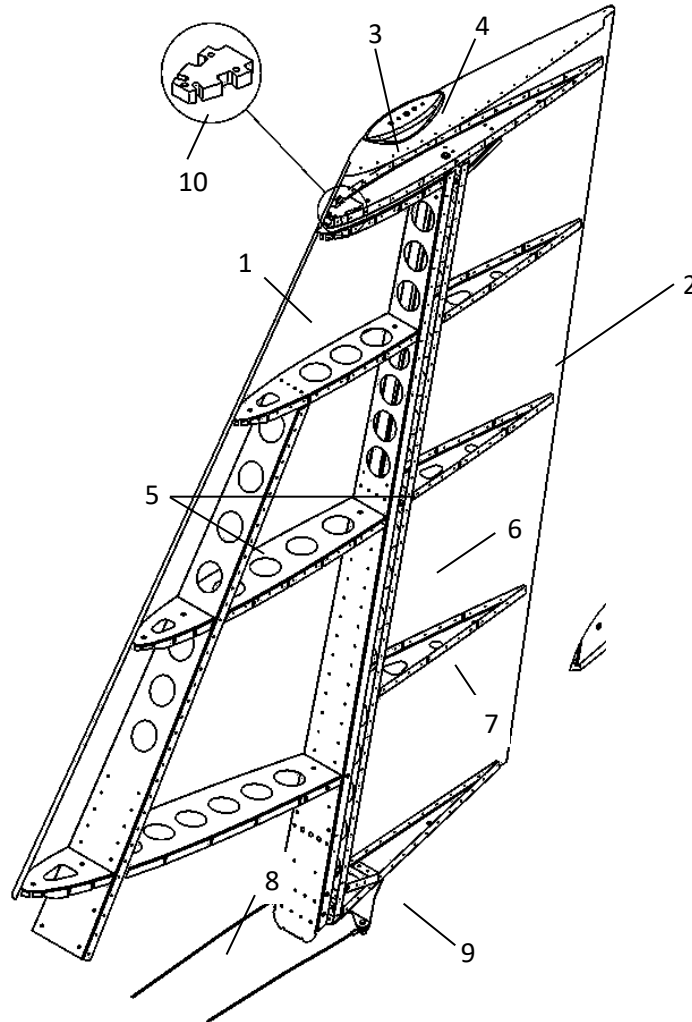

Figure 28: Vertical tail and rudder.
Refer to Figure 28. The vertical (1) stabiliser and rudder (2) consist of all-metal light alloy structures. The rudder horn (3) extends to the vertical stabilizer leading edge and has a composite tip on which navigation lights (4) and an aerial may be fitted. The vertical stabiliser consists of twin spars (5) with wrap-around stressed skin panelling. An attachment plate secures the vertical stabiliser's front spar to a bracket attached to the penultimate tail cone rib. The rudder consists of a spar (6) with formed sheet metal ribs (7) and sheet-metal skin. The rudder rotates / deflects around three hinges. Rudder control is effected by steel cables (8) attached to a control horn (9) on the bottom edge of the rudder and running (with a cross-over) to two control horns attached to the rudder pedal axles. Rudder mass balancing (10) is placed under the leading edge of the rudder horn, on the top rudder rib.